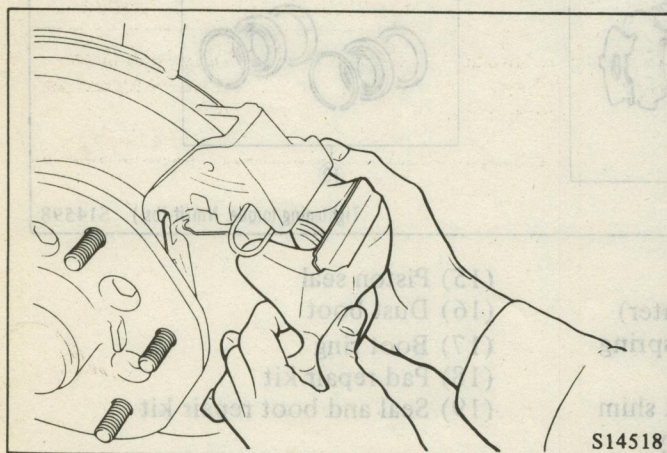

Fig. 20 Removing the Caliper Assembly
- (3) Loosen the caliper assembly mounting, and pull the caliper assembly diagonally upward and downward repeatedly to remove it. Keep it in a clean place. (Fig. 20)